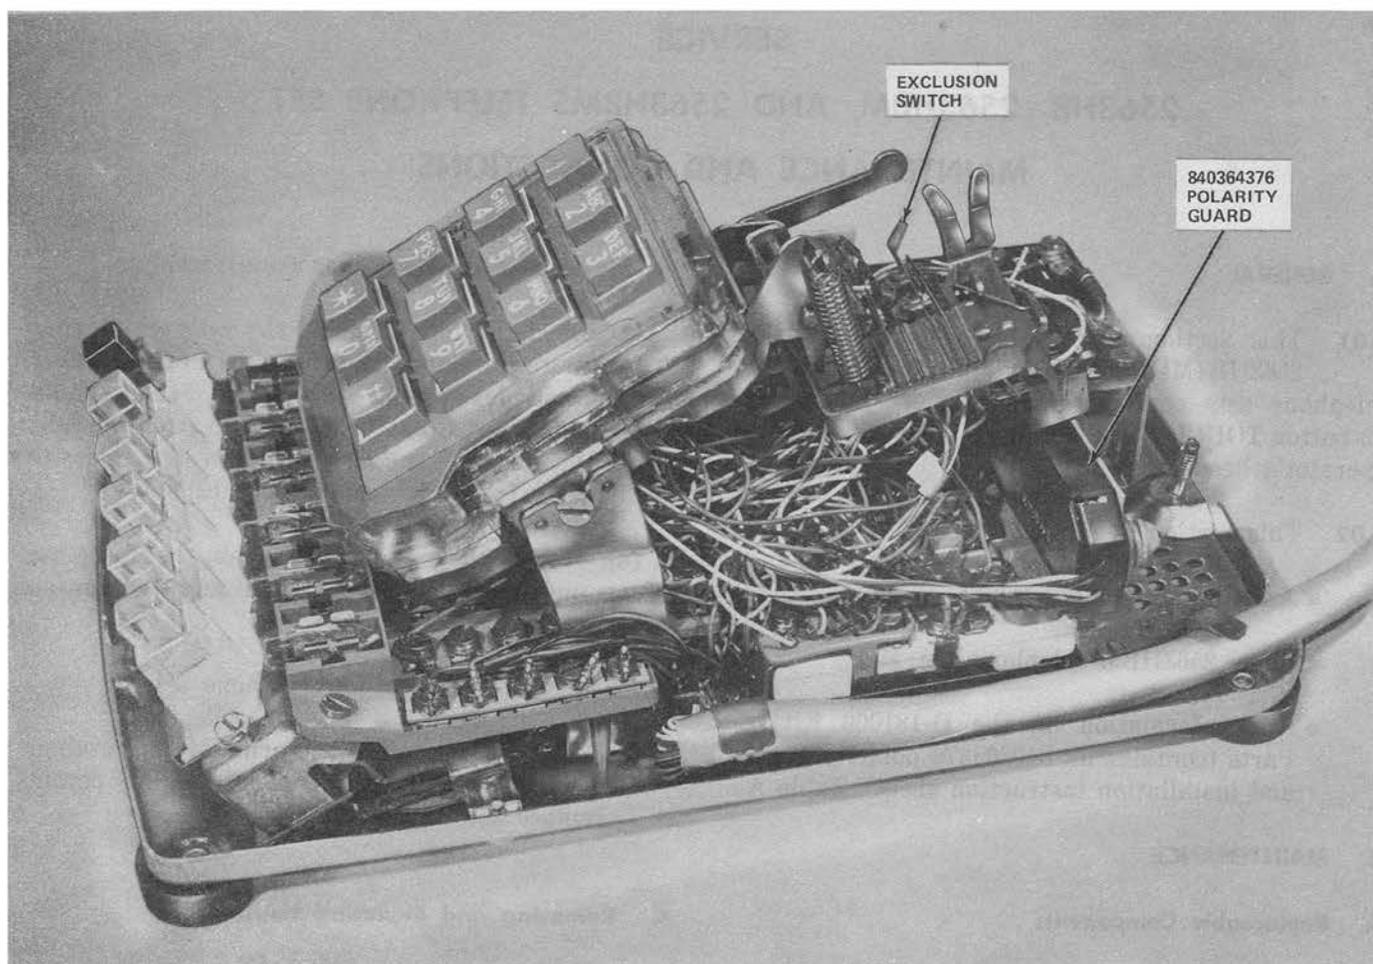

Fig. 1—2563HBMS Telephone Set With Polarity Guard Installed
**3.02** A D-181006 Kit of Parts containing an 840364376 polarity guard and instruction sheet should be used with these sets when specified by local instruction to eliminate the affects of battery and ground reversals encountered in end-to-end signaling (Fig. 1 and Table A). Station busy lamp indication, showing only that the handset is off-hook or that the headset key is in the ON position, can be provided for 1A1, 1A2, ♦6A, or 6B♦ KTS by use of a 533K diode or equivalent♦ which must be ordered separately and connected as shown in Fig. 2. This connection **will not** indicate that a line pickup button is depressed. Station busy for 1A KTS is a wiring option shown in Fig. 3.